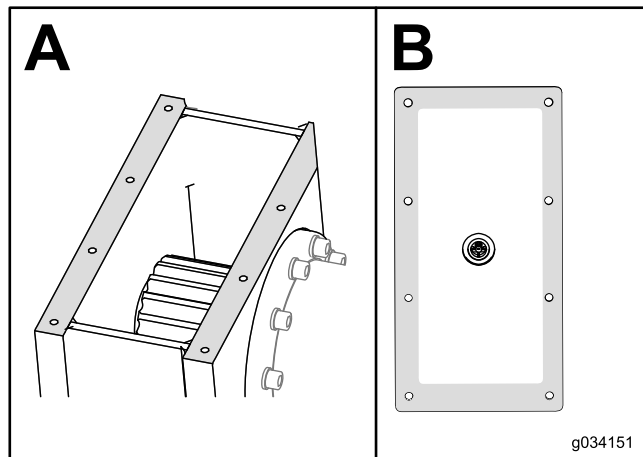

Figure 138
9. Clean the sealant off of the gearbox box and cover (Figure 138).
10. Put new automotive-grade RTV sealant around the edge of the cover (Box B of Figure 138).